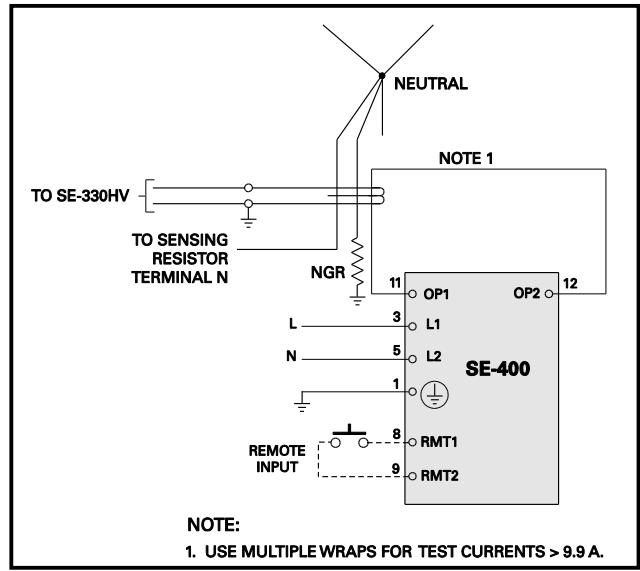

FIGURE 21. Ground-Fault-Test Circuit.
- d) Verify proper reaction of the circuit-interrupting device in response to a simulated or controlled ground-fault current. To simulate ground-fault current, use CT-primary current injection (does not apply for bushing-type CT’s). Fig. 21 shows a test circuit using an SE-400 Ground-Fault-Relay Test Unit. The SE-400 has a programmable output of 0.5 to 9.9 A for a duration of 0.1 to 9.9 seconds. Set the test current to 120% of GF TRIP LEVEL. Inject the test current through the current-sensor window for at least 2.5 seconds. Verify that the circuit under test has reacted properly. Correct any problems and re-test until the proper reaction is verified.